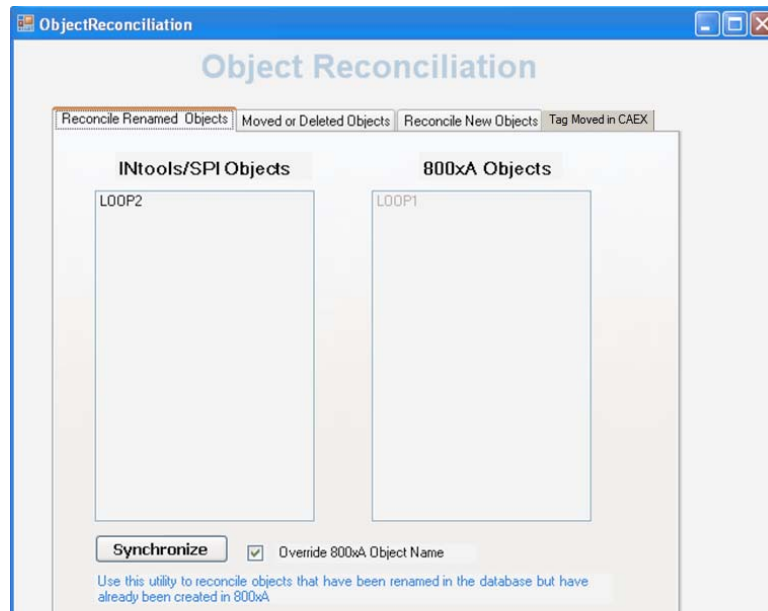
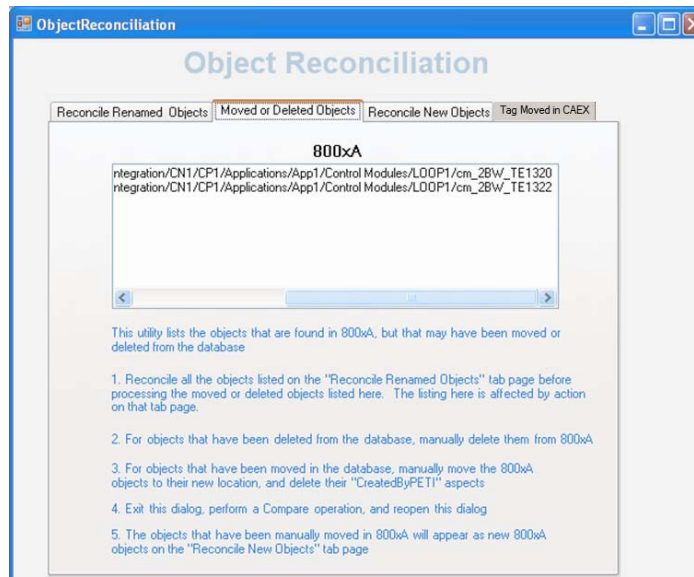
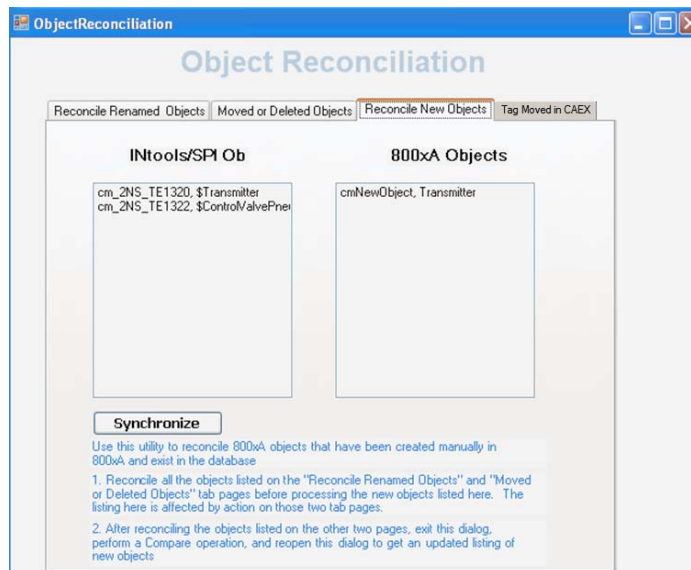

Figure 46. Reconciling Renamed Objects
Figure 47. Moved or Deleted Objects
Figure 48. Reconciling New Objects
The Object Reconciliation window will be displayed as shown in Figure 46.
Objects that need to be reconciled are categorized into renamed objects, moved or deleted objects, and new objects. They are listed on separate tab pages of the Object Reconciliation utility as shown in Figure 46, Figure 47, and Figure 48. They are categorized as follows:
1. Click to open the Reconcile Renamed Objects tab page as shown in Figure 46.
described and shown in Figure 47.
When there are no more entries on the Reconcile Renamed Objects and Moved or Deleted Objects tab pages, the user may proceed to reconcile the new objects. The user can then select one object from the CAEX list and select one object that is deemed to be the same object from the 800xA list and click **Synchronize** to synchronize the two objects (Figure 48).